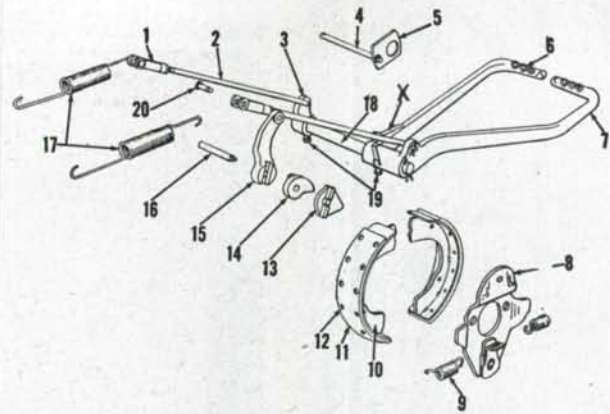

Fig. AC137—Model G linkage and components for the Bendix brake unit. Pedal stop is shown at point (X).
The 8 inch Bendix brakes, shown in Fig. AC137 are of the internal expanding type, bolted to the differential bearing carrier (10—Fig. AC110). The brake drums are pressed and keyed directly to the wheel axle shafts as shown in Fig. AC131.
304. Each pedal should have approximately 1½ in. of free travel before lining contacts the brake drum. To adjust, raise rear wheel and remove brake rod (2—Fig. AC137) from pedal. To reduce free travel (tighten brake), turn brake rod into brake lever attaching yoke end (1). Both brakes should be adjusted equally.